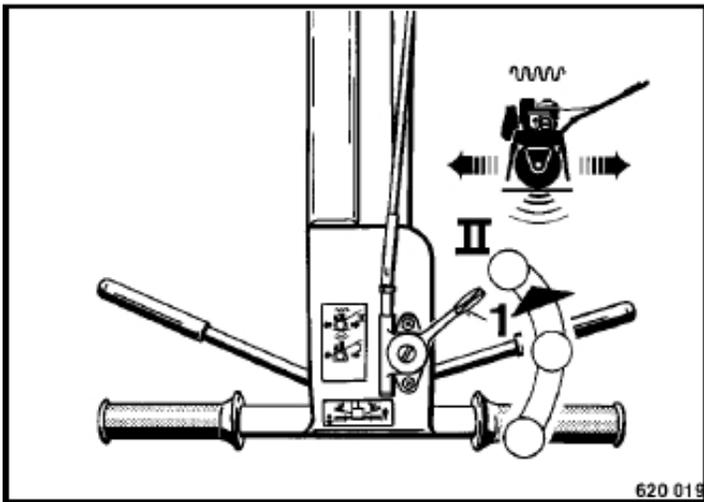

Fig. 16
- 1 Set the throttle lever 1 (Fig. 16) to position "II", vibration.